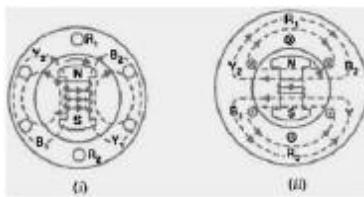

Fig: 1 (c)
- Flux due to rotor current is distributed in air-gap as shown in Fig: 1 (d).